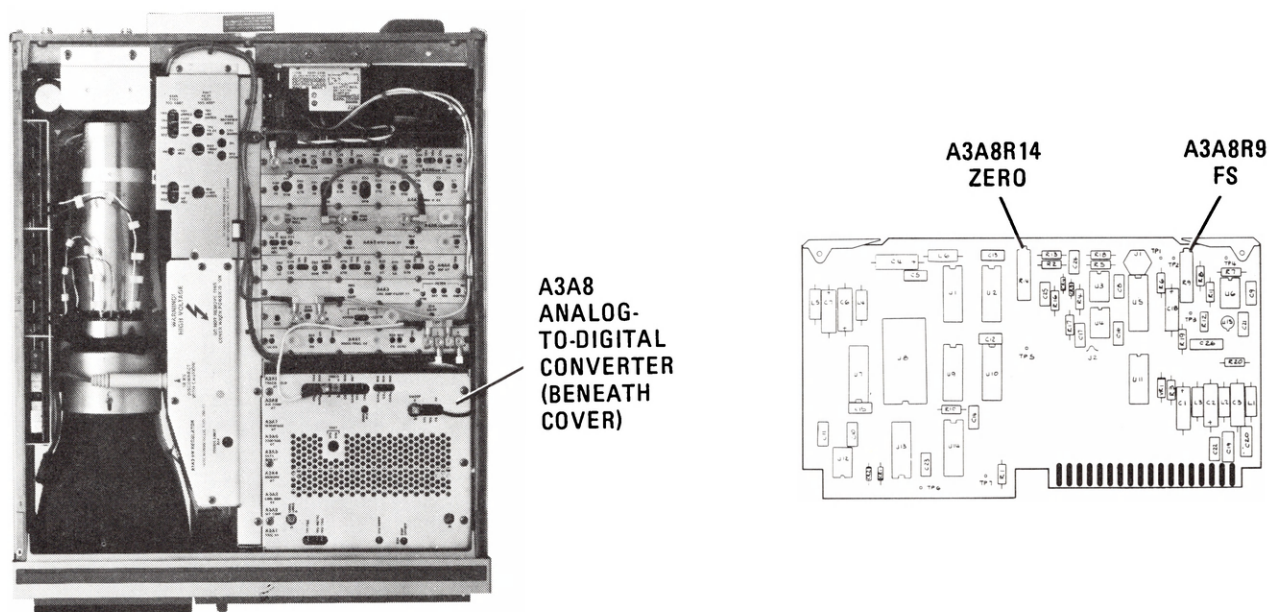

Figure 5-72. Location of Analog-to-Digital Converter Adjustments
- e. If DVM indication is $+1.000 \text{ Vdc} \pm 0.005 \text{ Vdc}$ at end of sweep, no adjustment is necessary. Skip to step 3-f. If DVM indication is greater than $+1.005 \text{ Vdc}$, adjust A3A8R14 ZERO slightly clockwise and go back to step 3-d. If DVM indication is less than $+0.995 \text{ Vdc}$, adjust A3A8R14 ZERO slightly counterclockwise and go back to step 3-d. Refer to Figure 5-72 for location of adjustment.
- h. If DVM indication is $+10.000 \text{ Vdc} \pm 0.005 \text{ Vdc}$ at the end of the sweep, no further adjustment is necessary. If DVM indication is greater than $+10.005 \text{ Vdc}$, adjust A3A8R9 FS slightly clockwise. Go back to step 3-g. If DVM indication is less than $+9.995 \text{ Vdc}$, adjust A3A8R9 FS slightly counterclockwise. Go back to step 3-g. Refer to Figure 5-72 for location of adjustment.
- i. Adjust A3A8R14 ZERO until dc level at A3A8TP5 oscillates between 0 Vdc and +5 Vdc as indicated on oscilloscope. Refer to Figure 5-72 for location of adjustment.
- m. Adjust A3A8R9 FS until dc level at A32A8TP5 oscillates between 0 Vdc and +5 Vdc as indicated on oscilloscope. Refer to Figure 5-72 for location of adjustment.